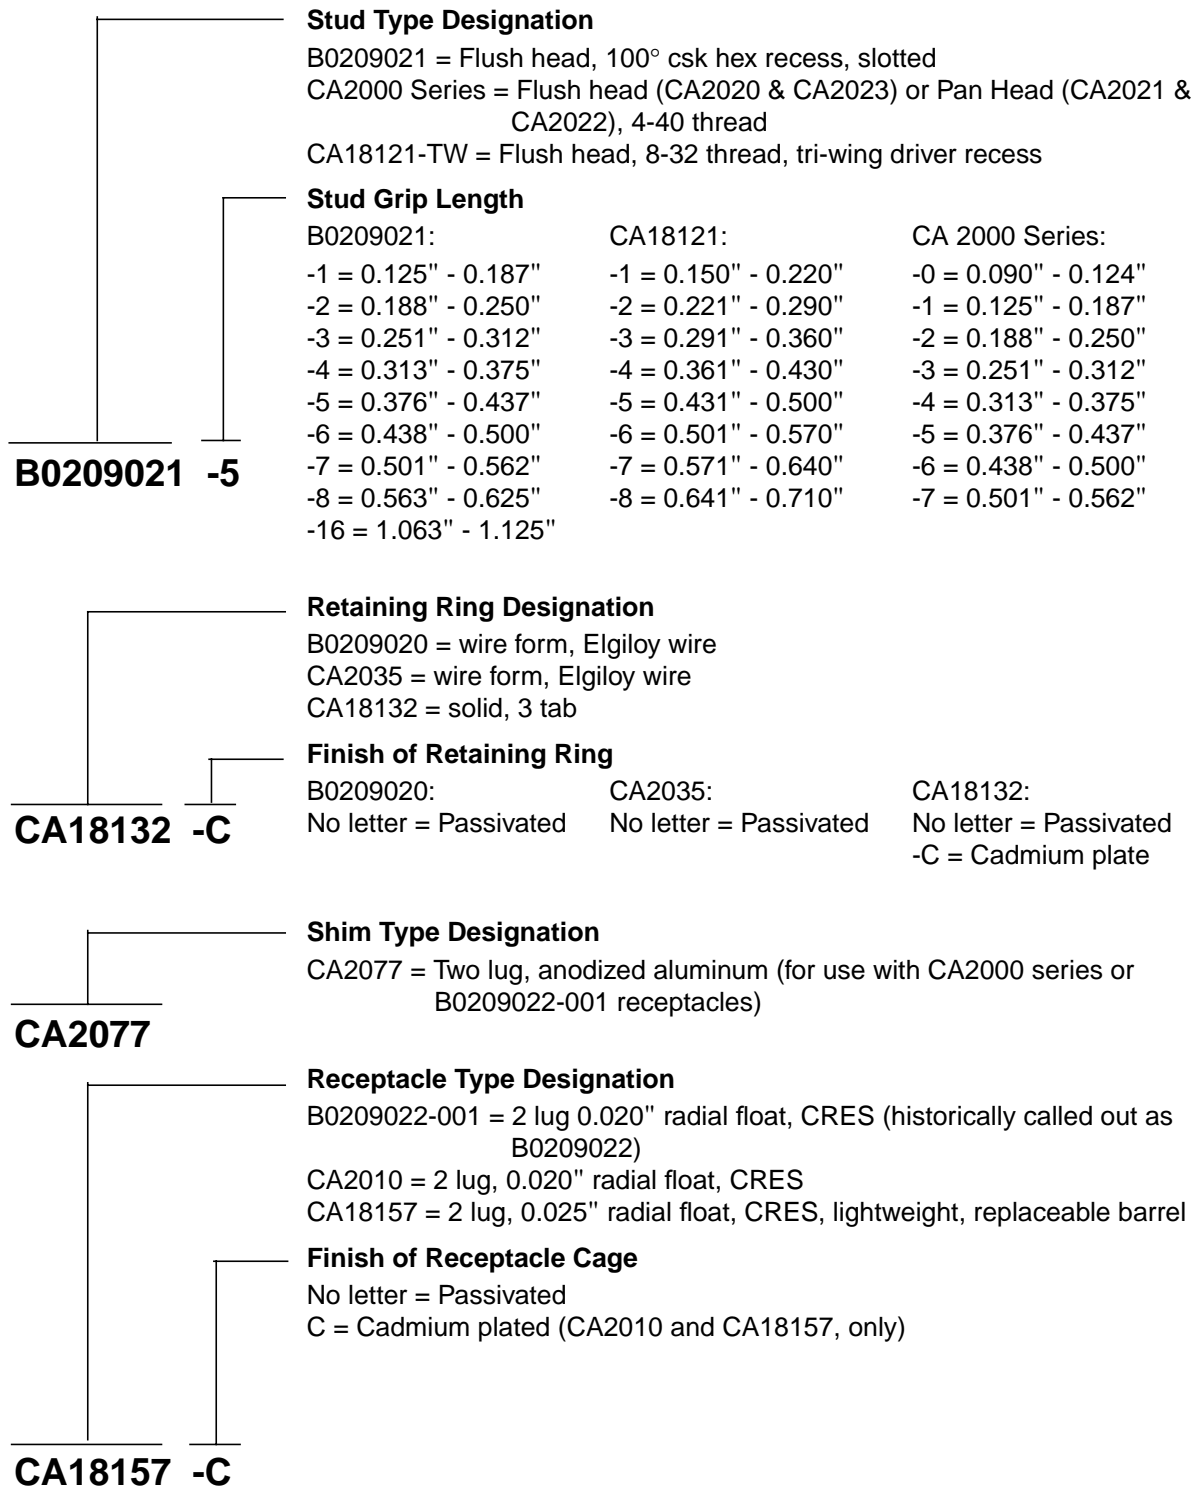
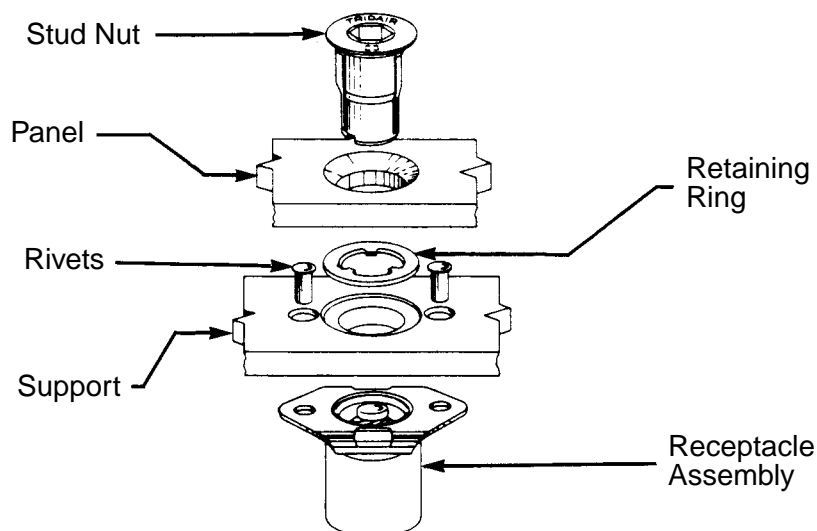

Figure 1 - Part Number Breakdown
Figure 2 - General Description of Panel Fastener Assembly (typ.)
- 4.1.1 Panel fastener assemblies as specified on the engineering drawing. Refer to Figure 1 for a part number breakdown. Refer to Figure 2 for a general description of a panel fastener assembly.